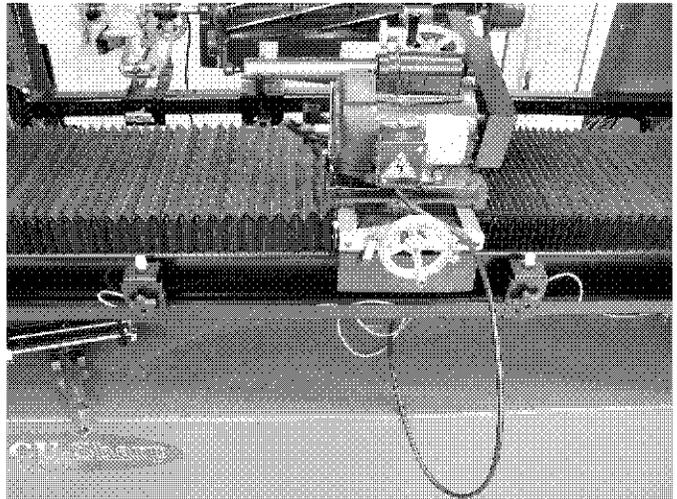

FIG. 62
- E. Move the grinding wheel back from the reel and frame so it will clear at all points. Set proximity stops so they line up approximately with the end of the frame and tighten them securely. Adjust the traverse speed knob to zero and turn traverse switch to on. Increases the traverse speed knob so the carriage will traverse slowly across the reel. See FIG. 62 & 63.